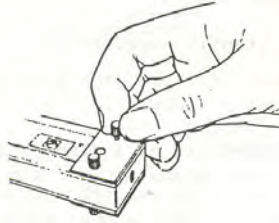

Figure 7
3. Secure the Cover to the transducer with screws (Figure 7).